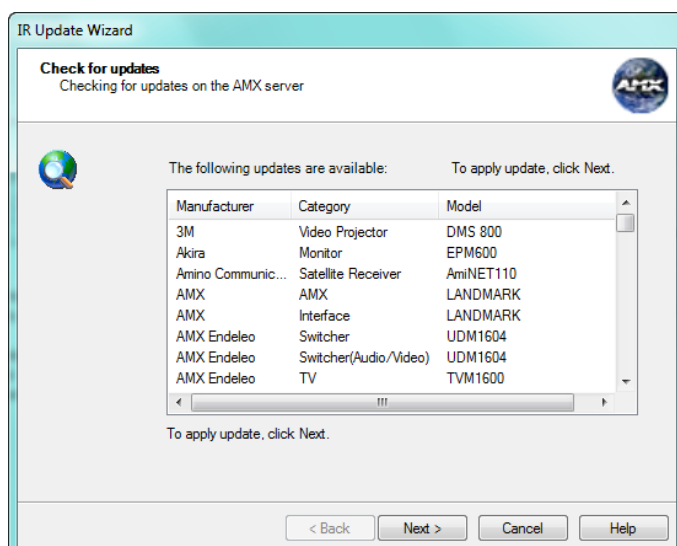

FIG. 38 IR Update Wizard - Check For Updates dialog
2. Click **Next** to proceed to the *Check for Updates* dialog (FIG. 38):